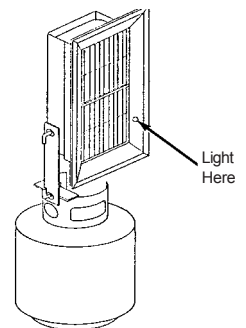

Figure 1
1. Attach the cylinder-mounting bracket to the heater (see Figure 1 & 2). This is done by lining up the hole in the mounting bracket over the tapped hole in the side of the heater's outer casing, and securing it with the 3/8-16 thumbscrew provided. **NOTE:** Be sure to use the mounting bracket provided. This prevents heat from being directed at the mounting cylinder.
3. Mount the heater on the flange of the propane cylinder and tighten the 3/8-16 thumbscrew until the mounting bracket is rigid. **NOTE:** When the unit is properly mounted, the shoulder of the thumbscrew will be exterior to the cylinder's flange (see Figure 1).